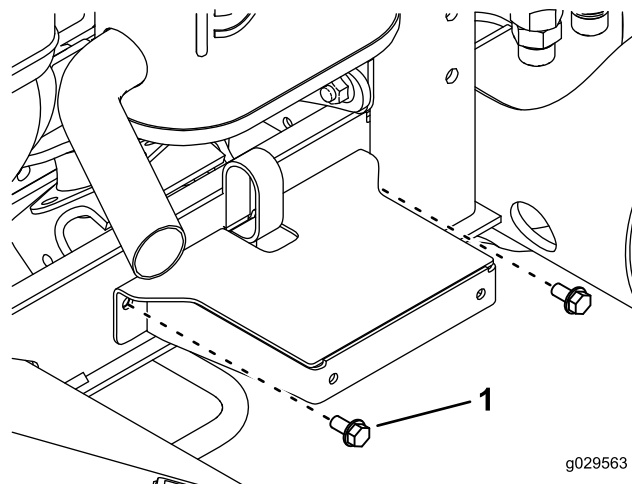

Figure 21
12. Using the newly drilled holes, secure the fender mount to the frame channel with 2 thread-forming screws (5/16 x 5/8 inch) as shown in Figure 21.